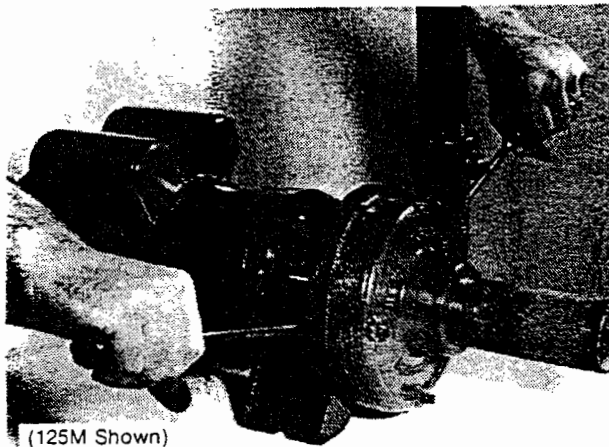

FIG. 1
- (c) To pry components apart, use two screwdrivers - opposite each other - in openings provided between the bracket and case. (Fig. 1)